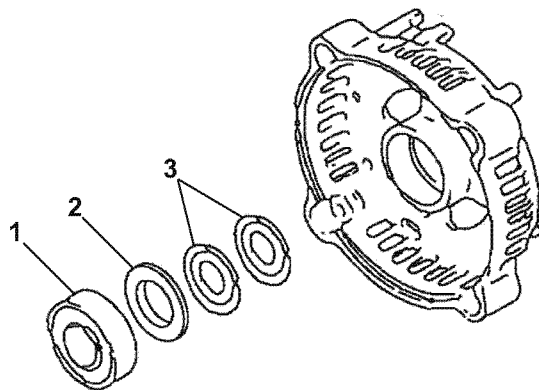

Figure 12-12
11. If it is necessary to replace the bearing (1, **Figure 12-12**) in the rear frame housing, use a puller to remove. Discard the bearing. Remove the bearing cover (2, **Figure 12-12**) and two thrust washers (3, **Figure 12-12**).